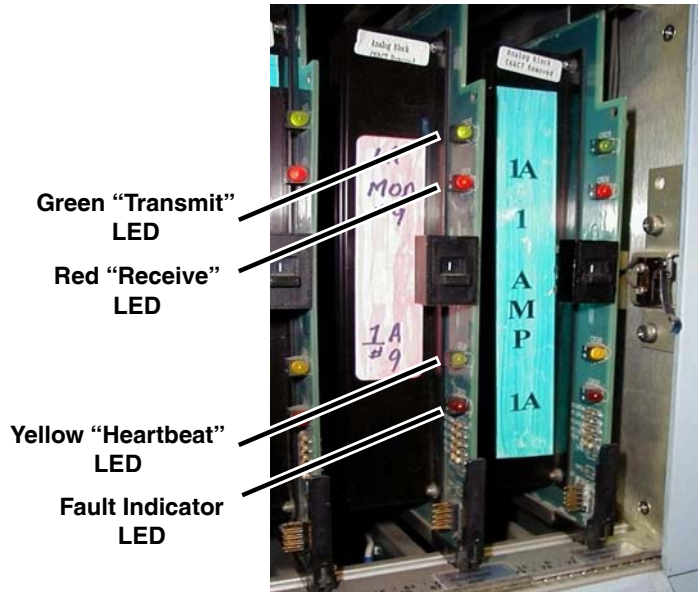

Figure 2-6: Trim Card LEDs
- i. Are the transmit, receive, and heartbeat LEDs (see Figure 2-6) on the front edge of the card now indicating proper function by blinking rapidly?
NOTE: The fault indicator LED, shown in Figure 2-6, should *not* be illuminated if the trim card is functioning properly.
16. Verify that the card is functioning properly by observing the yellow “heartbeat” LED, the green “transmit” LED, and the red “receive” LED (see Figure 2-6 on page 8 for LED locations). Are they all illuminated?
NOTE: The fault indicator LED, shown in Figure 2-6 on page 8, should not be illuminated if the trim card is functioning properly.